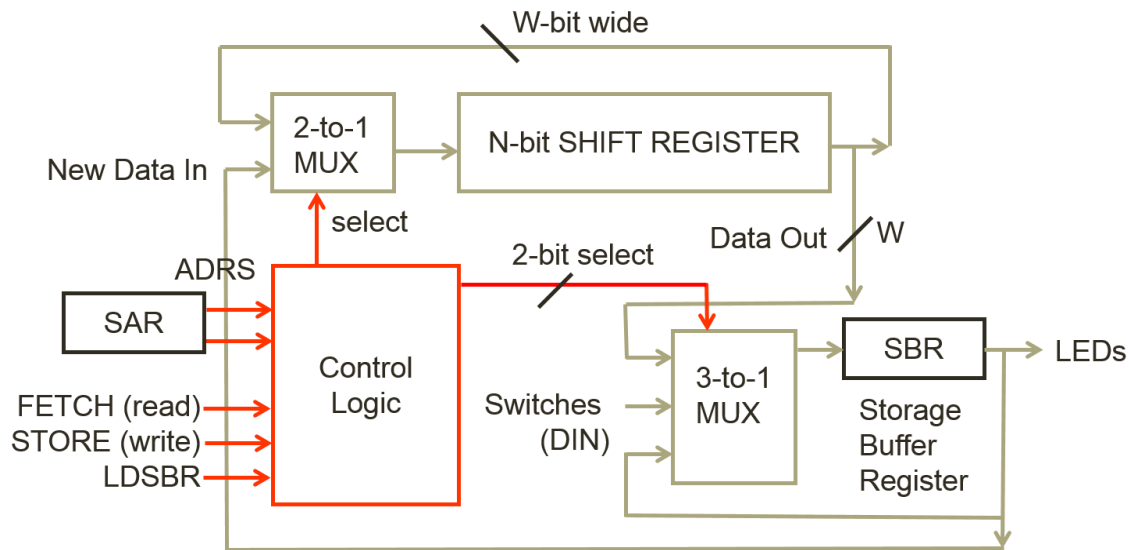

Figure 3: Block diagram of the shift-register storage unit.
But what is the ‘current operation’ at any given moment? Surely the desired operation is dictated by the user using the switches, but the inputs alone is not sufficient to tell each part of the circuit what to do. For example, if you would like to read from a specific address in the shift registers, you would first set the SAR to the specific address then you would hit the FETCH switch. But since the shift registers are constantly shifting data in and out of their serial ports, when exactly do you load the data into the SBR? How do you exactly tell what input the MUX should choose from? To solve the various problems associated with controlling and timing, it is generally not a good idea to use the inputs to directly control the various circuit components. Rather, it is almost always desired to have a centralized control logic that takes in all the inputs, process the request, and sends out various signals to control the circuit components. Figure 3 shows a general block diagram for the proposed circuit design. The most common form of a control logic is a state machine, which we will discuss in the next experiment. In this experiment, we will improvise a simpler control logic based on the requirements of our specific circuit.
- Include a high-level block diagram like figure 3 in the lab manual. This diagram should contain components on the granularity of registers, muxes, and blocks and include few/no individual gates.
- ii. Two block diagrams, one like figure 3 in the lab manual and one containing only the inside of the control unit.